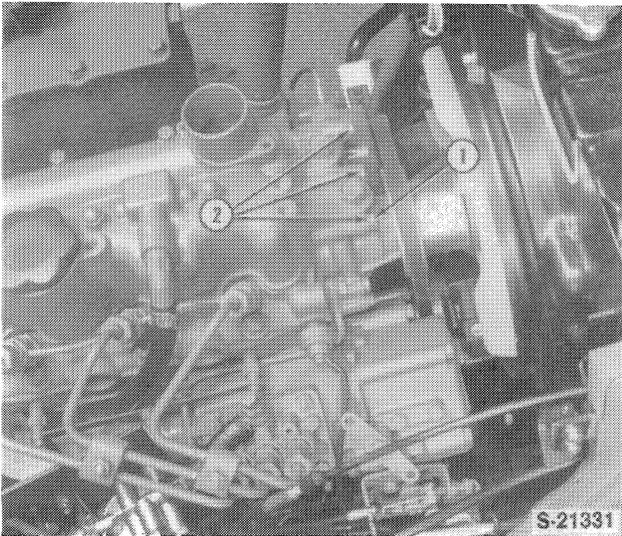

FIGURE 1-22
9. Remove the water pump mounting bolts, 2, and remove the water pump and fan as an assembly, Figure 1-22.